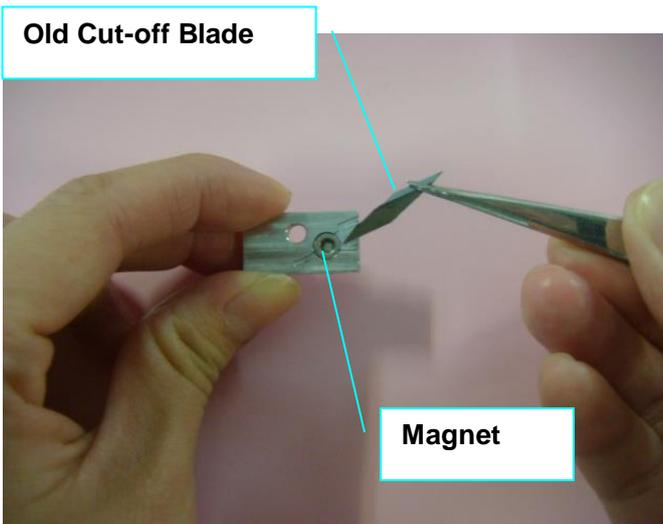

Figure 2-45
**Step 7** Unscrew the Cut-off Blade from the Cut-off Blade Fixer, which will be attracted by the magnet on it, and replace it with a new Cut-off Blade along the track highlighted in red using tweezers (Figure 2-45 and 2-46).